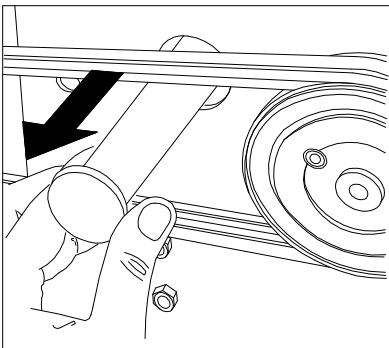

Fig. 17
- Remove the shaft , taking care to note the position of the spacers separating the breaker bars (fig. 17) .